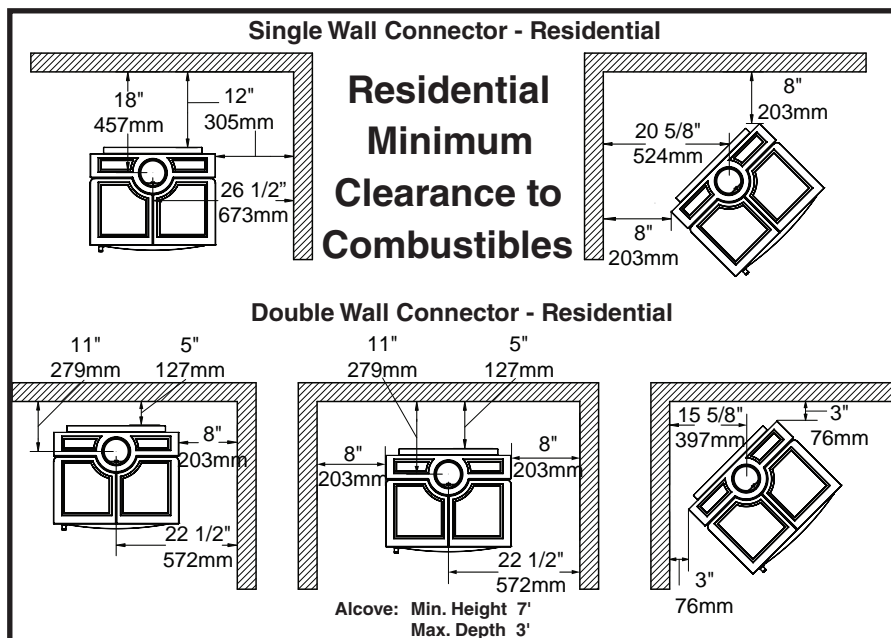

Figure 11: Residential wall connector clearances.
3. Alternately, for close clearances, use a listed double-wall connector. See “Figure 11: Residential wall connector clearances.” on page 20
NOTE: Longer chimney lengths and different pitch flashings may be used. All other parts installed must be listed, see Figure 11 on page 20. Install all components to the connector and chimney manufacturer’s installation requirements. Consult your chimney supplier for additional installation advice.